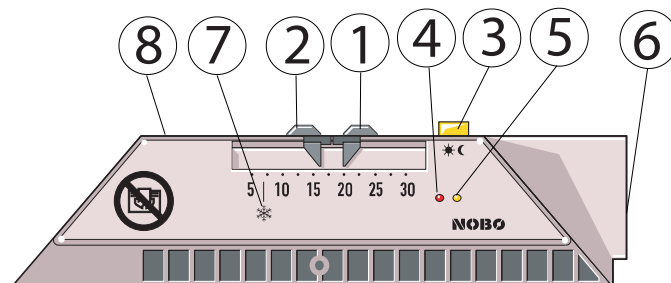

Fig. 1
Set the desired temperature levels for comfort and economy periods. Use override button, fig.1 (3) to switch the heater to economy function when the central unit is programmed to comfort, and vice versa. If the function unit is used without being programmed on a central unit, the override button will just toggle between economy mode and comfort mode. Light diode (4) alternates between red and green depending on whether the heater has received a comfort or an economy signal from the central unit or override button.